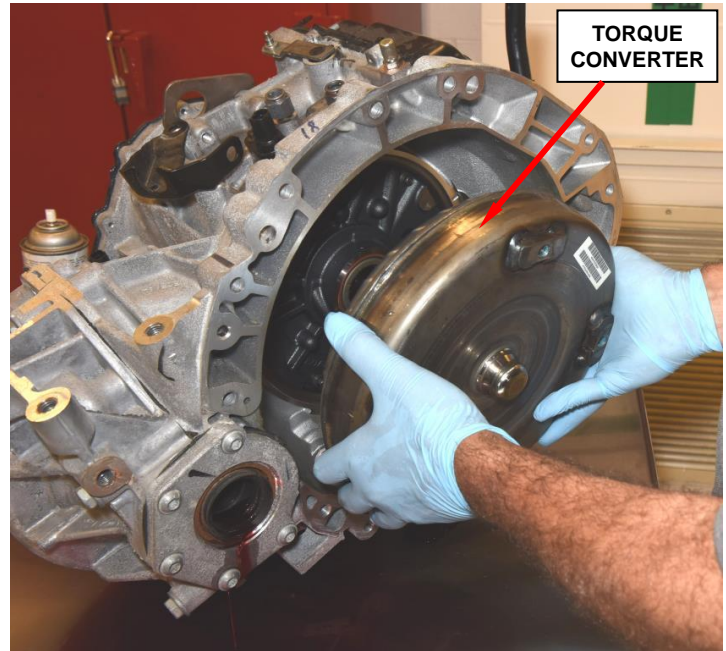

Figure 32 – Torque Converter
2. Remove the torque converter (Figure 32).